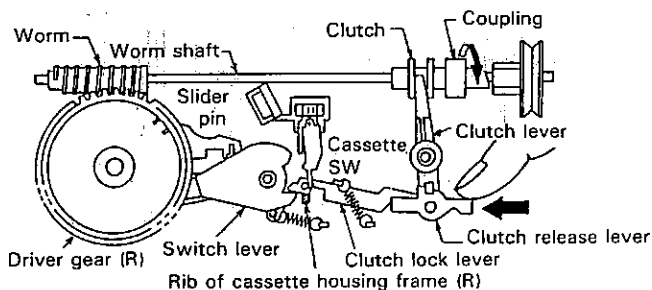

Figure 1-16.
1. Shift the slider by turning the coupling in the arrow direction (clockwise) until the slider pin is at the bottom of the slider groove as shown in the Figure 1-16. (The loading mode)
**Note:** Note that the slider is equipped with a lock mechanism. Unlock the locks on cassette housing frame (L) and (R) side before shifting the slider.
2. When the position is set as shown in the Figure 1-16, push the clutch release lever in the direction of the arrow by hand until the clutch lock lever becomes tightly locked by the rib of the cassette housing frame (R).